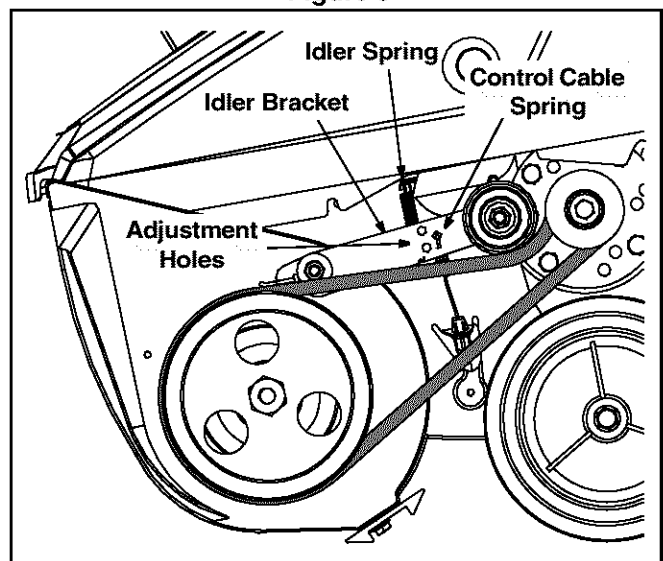

Figure 9
- Move the extension spring (found on the end of the control cable) **from the low position to the middle position** on the idler bracket. See Figure 9.
**NOTE:** Be careful not to lose the idler spring when moving the clutch cable spring. See Figure 9.